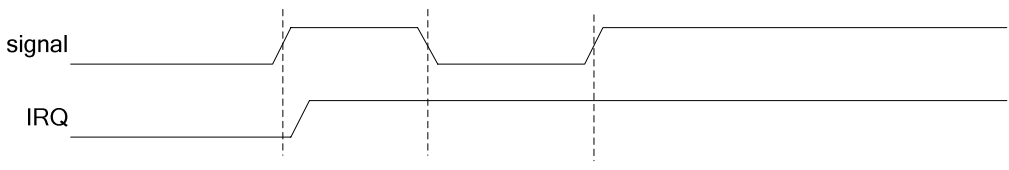
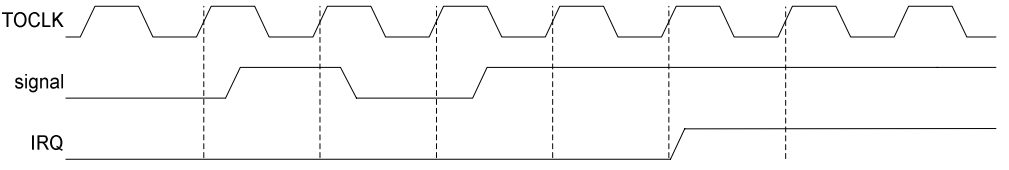
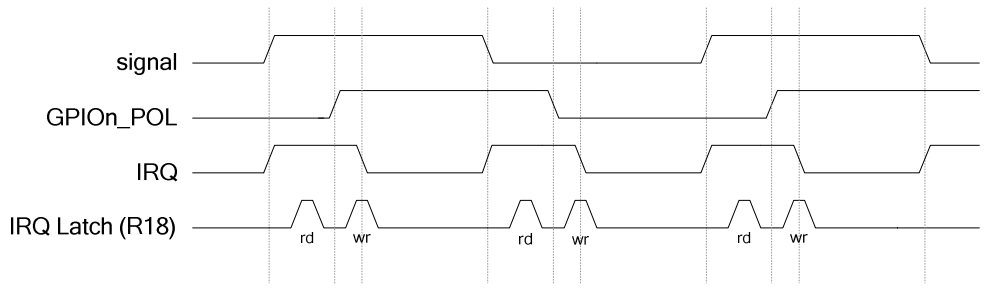

Figure 46 GPIO Latch
Figure 47 GPIO De-bounce
Figure 48 GPIO Edge Detect
Three typical scenarios are presented in the following Figure 46, Figure 47 and Figure 48. The examples are:
- Latch a GPIO input (Figure 46)
- Debounce and latch a GPIO input (Figure 47)
- Use the `GPIO n_POL` bit to implement an IRQ edge detect function (Figure 48)